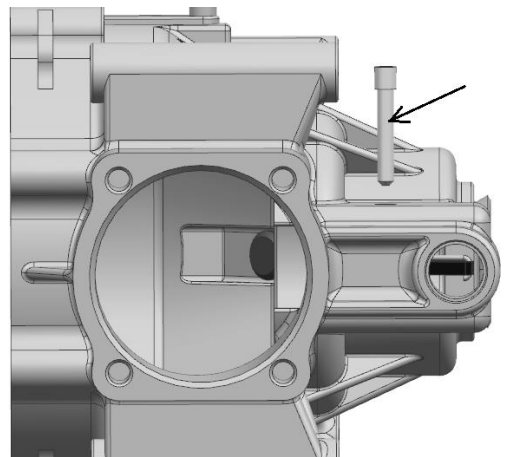

Fig 11
12.Remove the pin from the gearcase cover. →Fig 11
- 6. Install the lock shift (NO.46) pin and tighten. → Fig 11